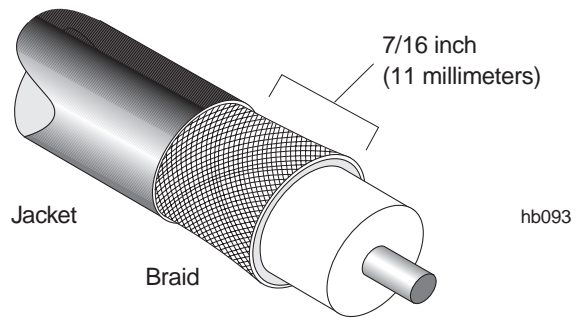

Figure C-5 Braid, flared and trimmed
- Flare the braid *slightly* and trim to 7/16 inch (11 millimeters), as shown in figure C-5.
- b. Re-trim the braid to 7/16 inches (6 millimeters), as shown in figure C-5.